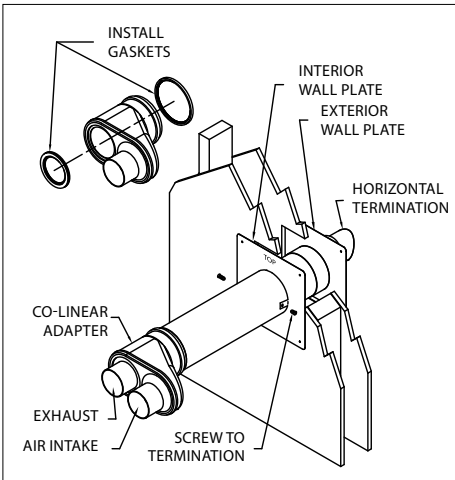

Figure 13
Horizontal Concentric (Fig.13)
8. Install gaskets into Co-Linear Adapter (if applicable). **(Fig.13)**